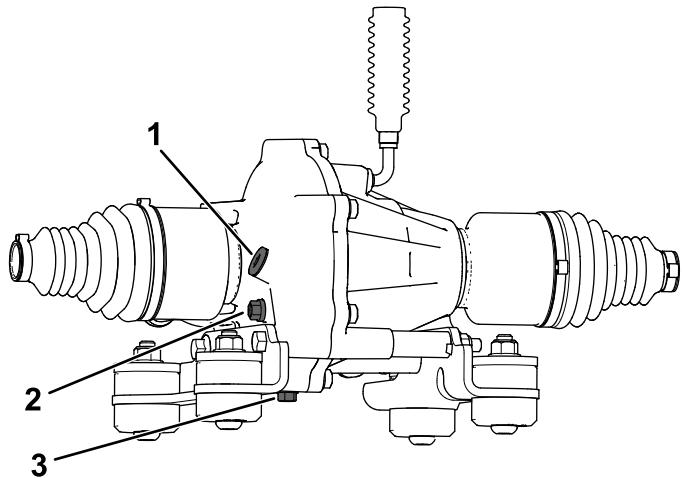

Figure 80
4. Remove the check plug on the front differential (Figure 80).
5. If the oil level is low, you may add the specified oil through the check plug opening (Figure 80).
4. Align a drain pan under the drain plug (Figure 80).
5. Remove the fill plug (Figure 80).
6. Remove the drain plug and allow the fluid to drain completely (Figure 80).